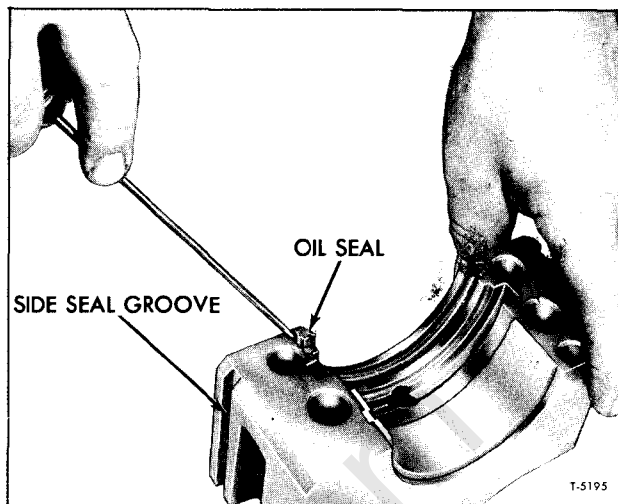

Figure 8—Removing Seal Lower Half From Bearing Cap
4. Remove seal from groove in bearing cap with screwdriver as shown in figure 8. To remove seal upper half from groove in cylinder block use a light weight hammer and soft metal drift (aluminum, copper, or brass) to start the seal out of